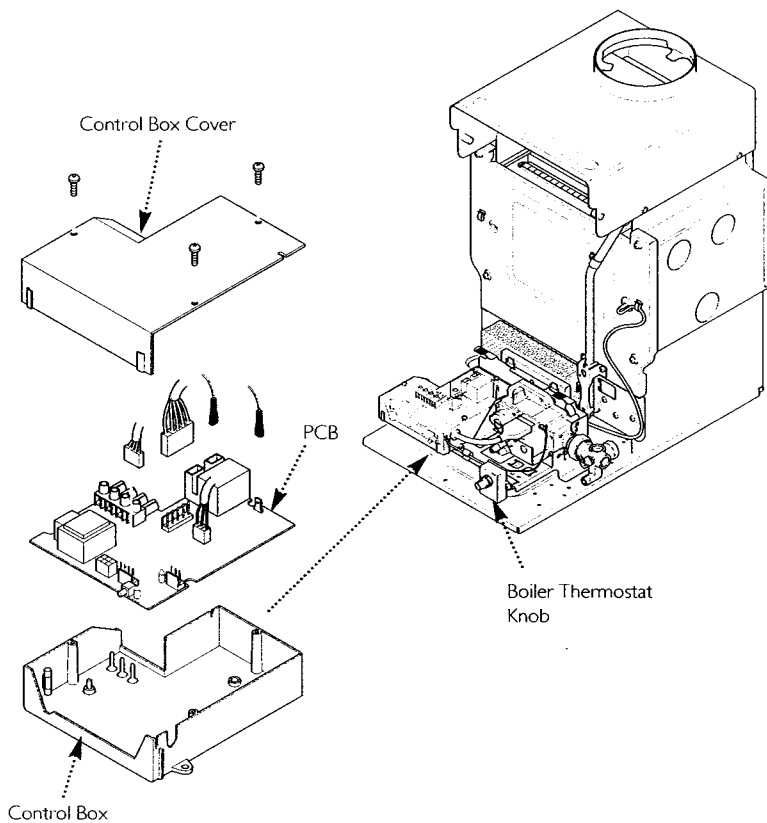

Fig. 54
9.6 Printed Circuit Board (Fig. 54)